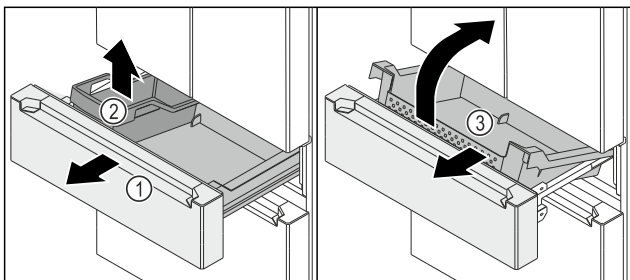

Fig. 149
- ▶ Pull the telescopic unit Fig. 149 (1) out as far as it will go.
- ▶ Remove the FlexBox Fig. 149 (2).
- ▶ Pull the container Fig. 149 (3) out forwards.
- ▶ Remove the container Fig. 149 (3) diagonally forwards.